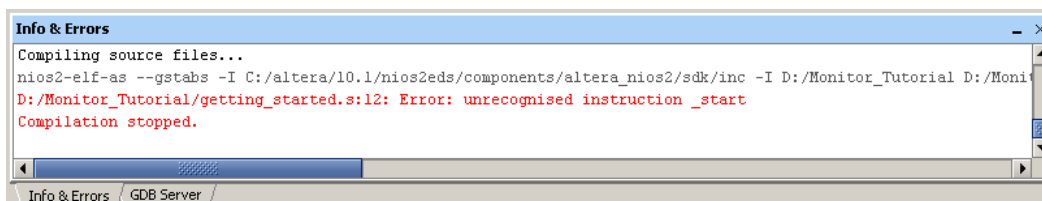

Figure 15. An example of a compiler error message.
During the process of developing software, it is likely that compilation errors will be encountered. Error messages from the Nios II assembler or from the C compiler are displayed in the Info & Errors window. To see an example of a compiler error message, edit the file *getting\_started.s*, which is in the project's directory, and remove the : colon that appears at the end of the *\_start* label, in line 12. Recompile the project to see the error shown in Figure 15. The error message gives the line number in the file (12) where the error was detected. Fix the error, and then compile and load the program again.